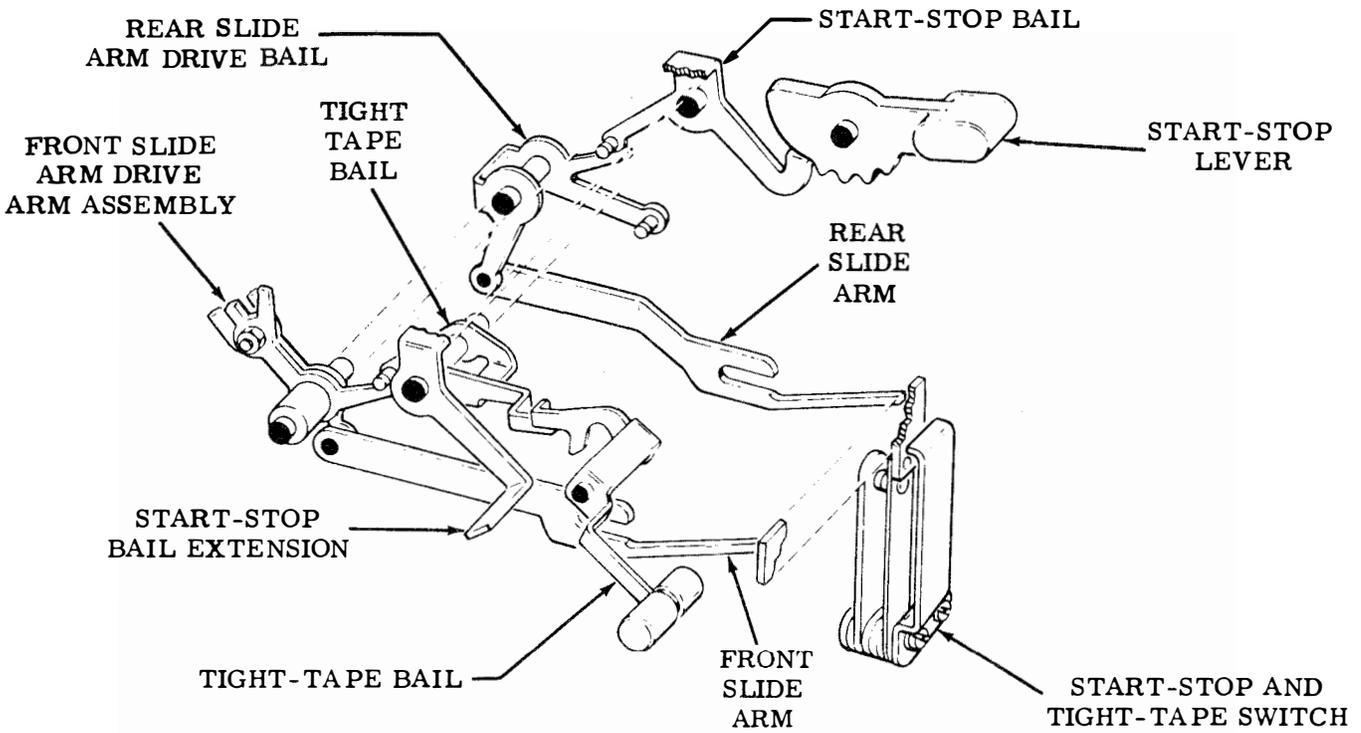
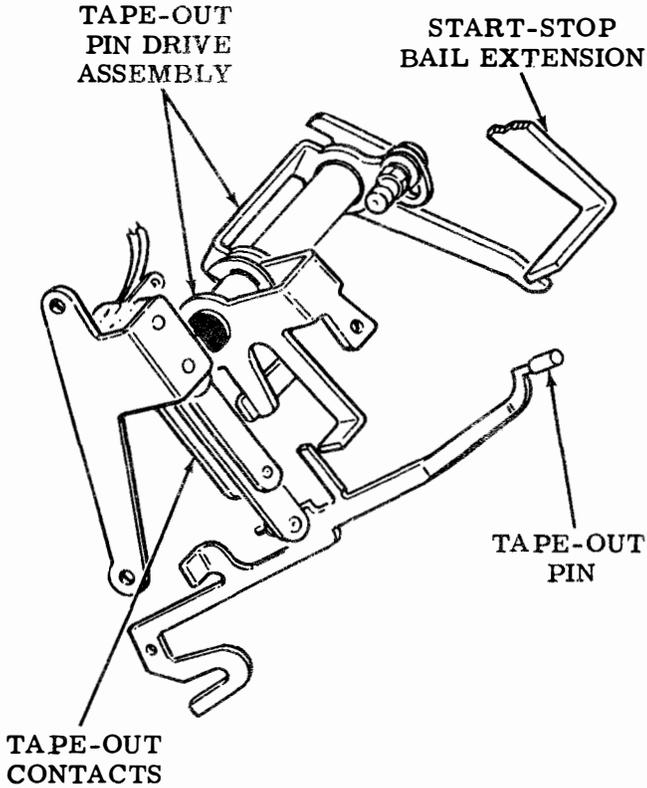

Figure 12 - Start-Stop and Tight-Tape Switch Mechanism
Figure 18 - Tape-Out Pin and Contacts
6.03 The sensing clutch trip magnet is controlled by the start-stop and tight-tape switch mechanism (Figure 12) and the tape-out pin and contacts (Figure 18), which are in series with the magnet coil.
7.01 With the start-stop lever in the RUN position, the cam surface of the lever causes the start-stop bail to pivot on its axis (Figure 12). The pivoted start-stop bail causes the rear slide arm drive bail to pivot and release the rear slide arm. This permits the start-stop and tight-tape switch to close and energize the sensing clutch tripmagnet (Part 6).
11.01 When the unit is loaded with tape, the pressure of the tape causes the tape-out pin (Figure 18) to hold the tape-out contacts closed. These contacts are in series with the sensing clutch trip magnet circuit. If a tape-out condition occurs, pressure on the pin is removed and, through the tape-out pin drive assembly, the contacts open the sensing clutch trip magnet circuit, stopping transmission.
through the front slide arm, actuates the start-stop and tight-tape switch (Figure 12) opening the sensing clutch trip magnet circuit and stopping transmission, if the tape in the unit becomes tight.